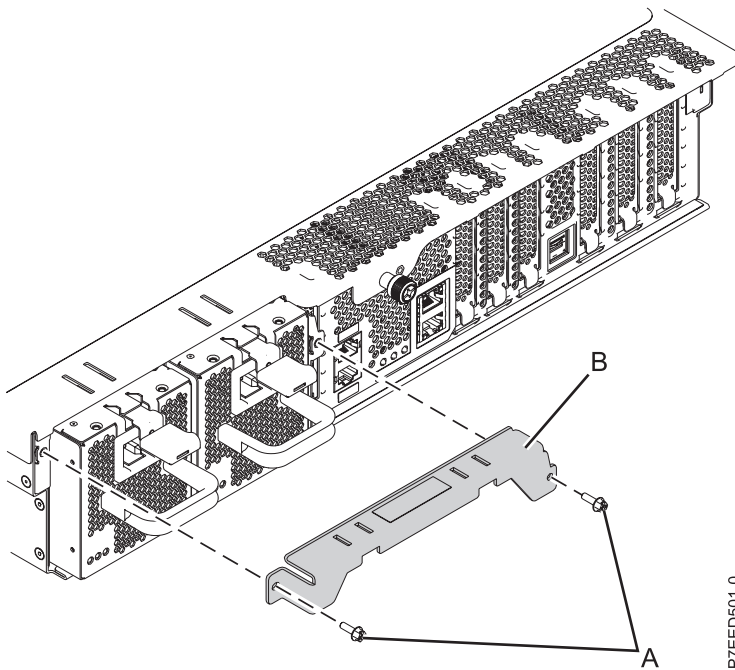

Figure 10. Removal of shipping bracket
- a. Remove the two screws (A), as shown in Figure 10.